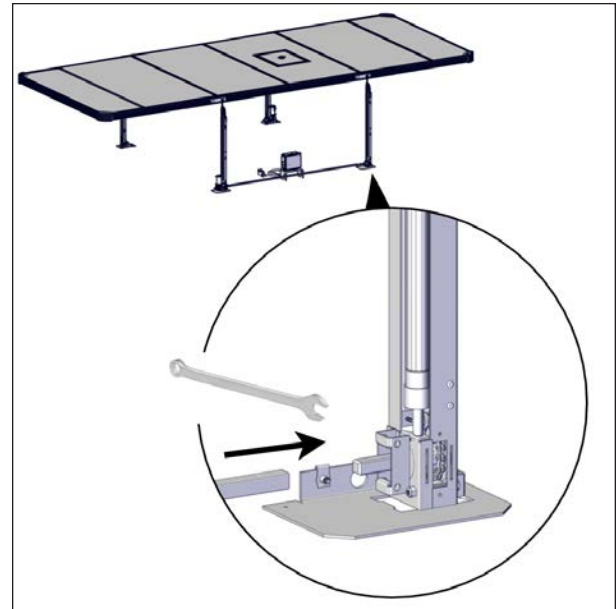

FIGURE 80: DRIVE SHAFT INSTALLATION ON THE NON-MOTOR SIDE
3. On the same spa side, install the drive shaft onto the non-motorized jack's shaft see Figure 80.
If drive shaft does not line up with non-motorized jack's shaft, the use of a 3/4" (19 mm) wrench or adjustable wrench can help. Slightly rotate the shaft as shown in Figure 80.